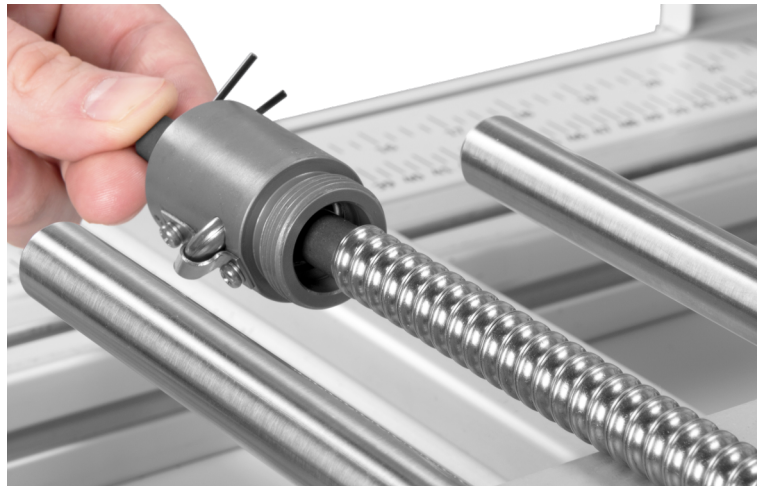

Figure 26: Sliding the ball nut on the arbor.
- Press the tip without locking pin of the arbor on the free tip of the ball screw, as shown in Figure 26. Make sure the tip of the ball screw inserts all the way inside the arbor.
11. Screw the nut counterclockwise on the ball screw until the nut slides completely on the arbor, as shown in Figure 26.